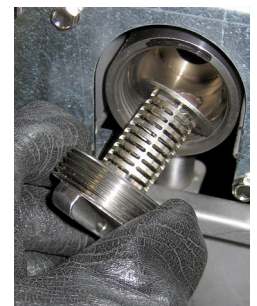

Figure 3
2. Use a small brush to clear debris from the attached screen (Figure 3).